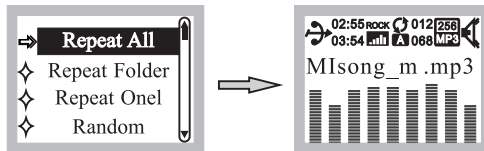

Fig. 11
(F) Repeat Mode: Press PRV/TEN  or NEXT/TEN  to select parameter, Fig. 11.
- (1) Repeat All:  .
- (2) Repeat Folder:  .
- (3) Repeat One:  .
- (4) Random:  .